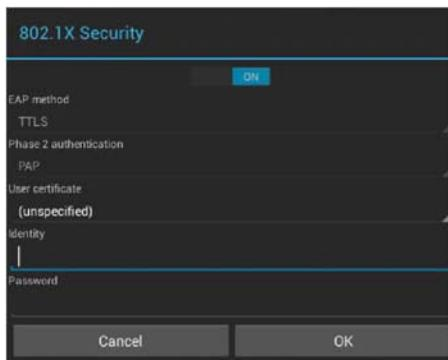

FIG. 62 802.1X Security window (ON)
2. Toggle this feature **ON** to enable the editable fields in this window (FIG. 62):